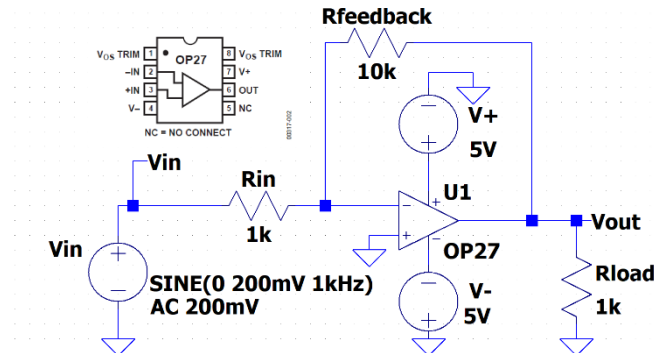

Figure A-7 (repeat)
- Build the inverting op-amp circuit in Figure A-7 on your protoboard.